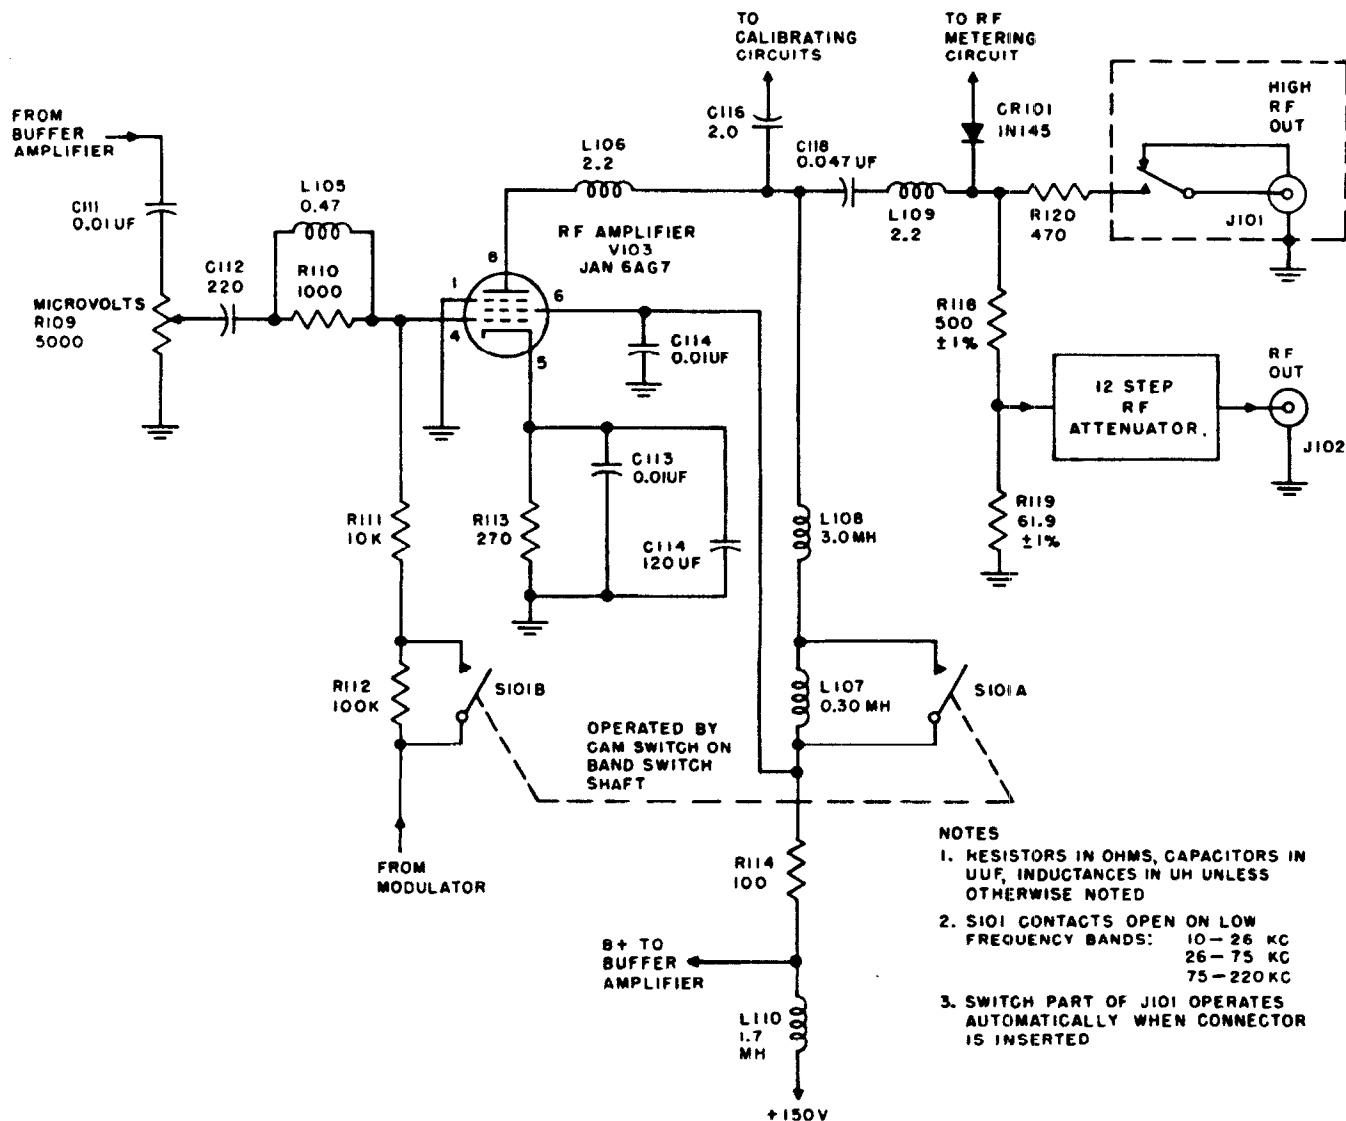
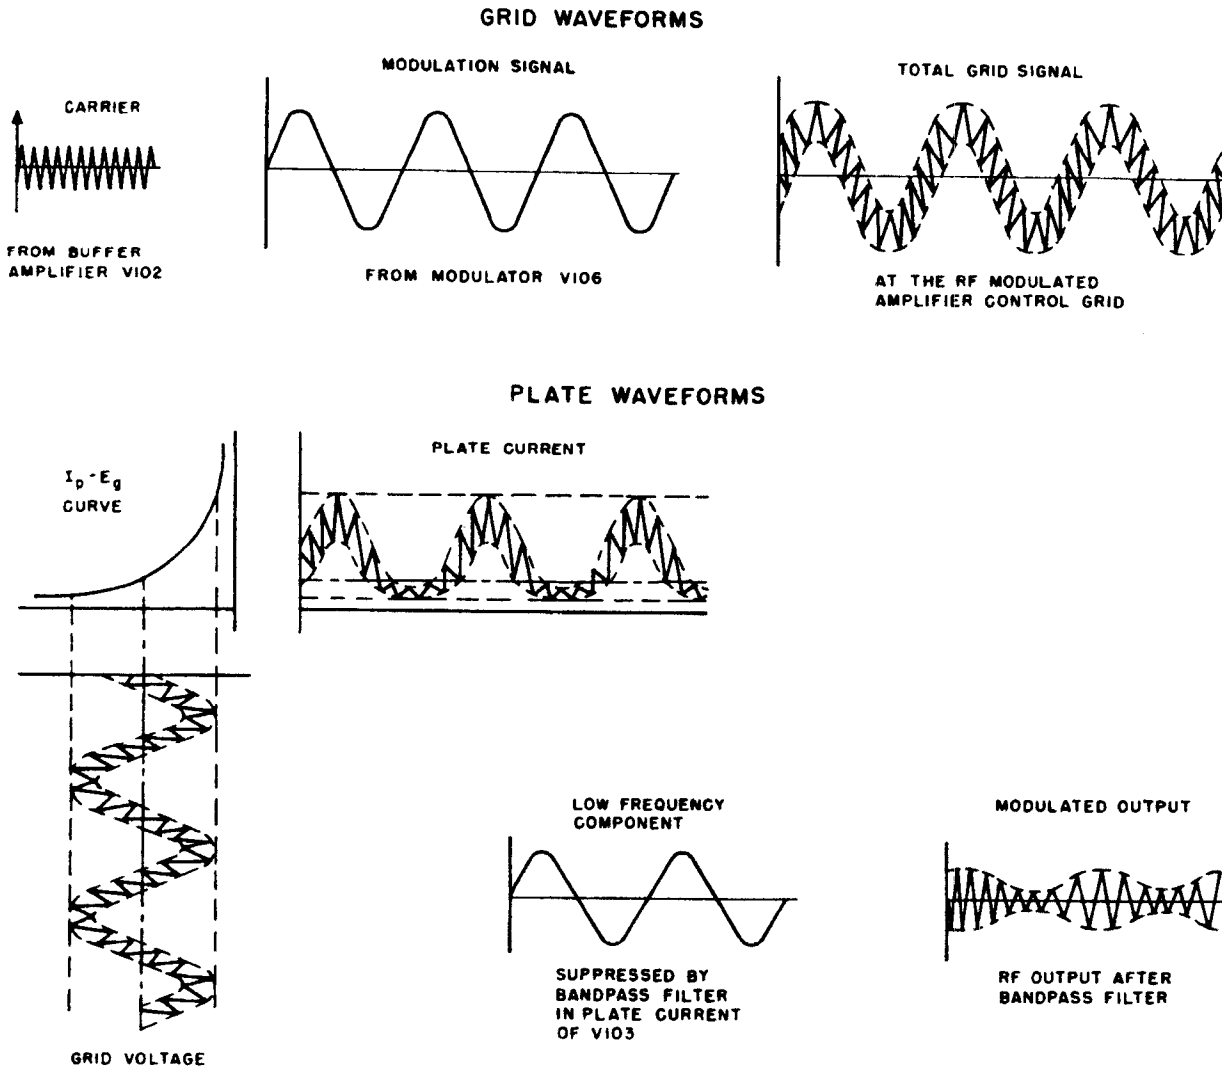

Figure 2-4. RF Modulated Amplifier Simplified Schematic
Figure 2-5. RF Modulator Amplifier Waveforms Van der Bijl Modulation
(See figures 2-4 and 2-5.)
c. A Van der Bijl class A modulated amplifier circuit produces the modulated RF carrier. This type of modulator utilizes the principle that the amplification of a pentode depends upon the bias of the stage. The carrier and the modulating signal are mixed at the control grid of V103 as shown in figure 2-4. Since the carrier is small, it cannot swing sufficiently to affect the stage bias. The large modulating signal, however, exerts a great deal of control over the bias. Therefore amplification of the carrier is varied at an audio rate producing modulation. The plate current contains both the modulating frequency (see figure 2-5) and the modulated carrier. Only the latter component is desired. Hence, the modulating frequency is removed by a bandpass filter in the plate circuit of the amplifier. This filter is described in paragraphs e and f of this section. The correct no-signal bias for V103 is provided by cathode resistor R113. Capacitors C113 and C114 bypass RF and audio currents around R113 to ground.
i. When the attenuator is at the position for 100,000 microvolts output, the jack is connected to the top end of R119. See figure 2-4. The combination of R118 and R119 attenuates the signal from 2 volts to 0.2 volt. When a 50-ohm termination is used across J102 (thus properly terminating the generator), 100,000 microvolts appears across the termination. This is the voltage indicated on the meter M101. It cannot be too heavily stressed that the output voltage from J102 is only indicated correctly by the meter M101 when the generator is terminated by its correct impedance, 50 ohms. See paragraph 9, section 4 "Operation" for termination methods.